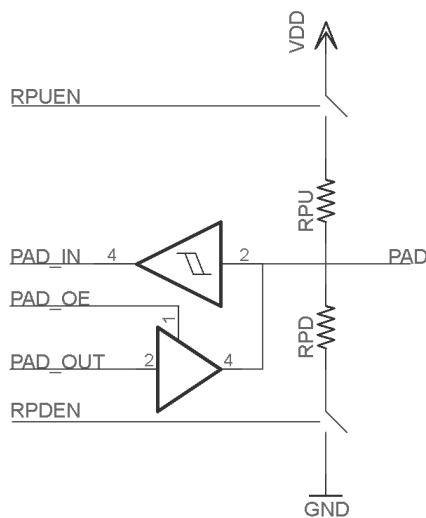

Figure 3-2 The IO PAD with controllable pull-up and pull-down
- If user SoC Chip’s IO PAD does not have “Bus Keep” feature, it can be implemented with “IO PAD with controllable pull-up and pull-down of” to achieve it, as depicted in Figure 3-2.